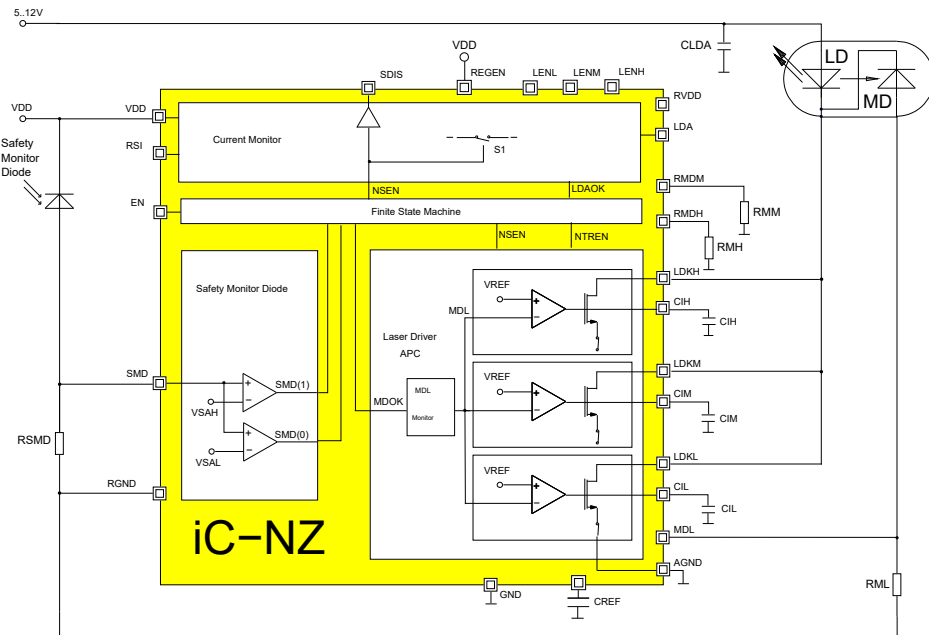

Figure 17: Driving blue laser diodes
*els*. Figure 17 shows iC-NZ connected up to a blue laser diode. It is important to note that here the laser diode supply voltage should be as low as possible to keep iC power dissipation to a minimum.